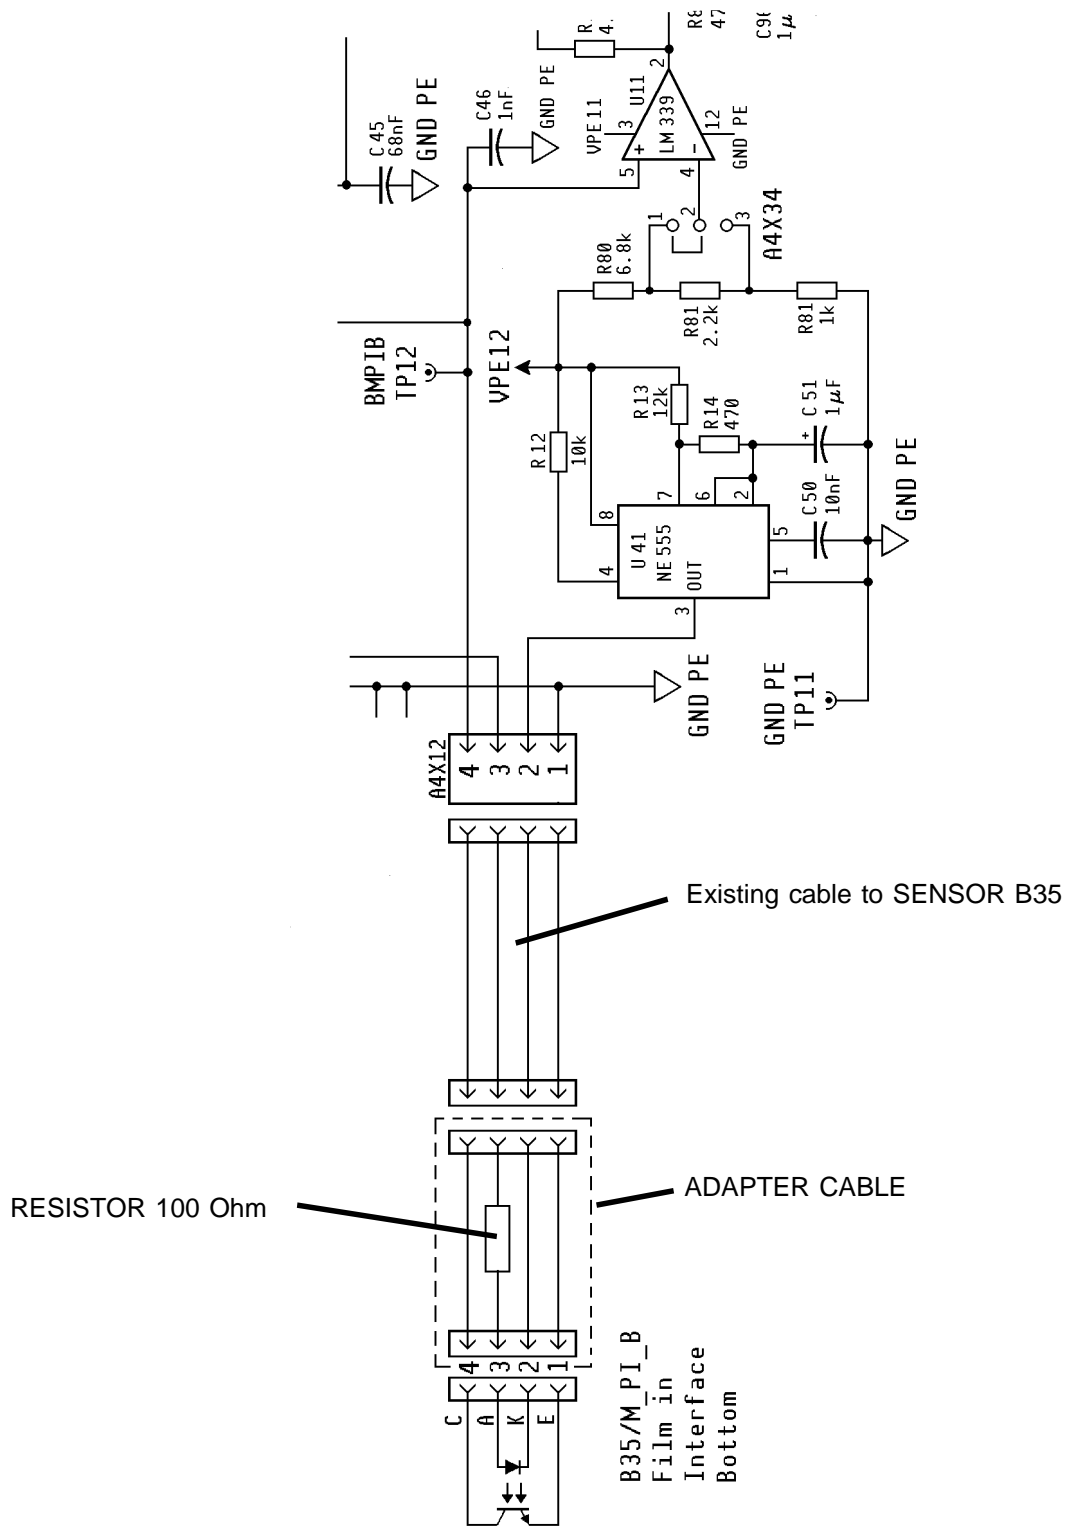

figure 3
4. Connect the DVM to TP12 of PCB A4 and to TP11(GND PE) of PCB A4 (for the location of the TEST PINS see figure 5 for the wiring diagram see figure 3).